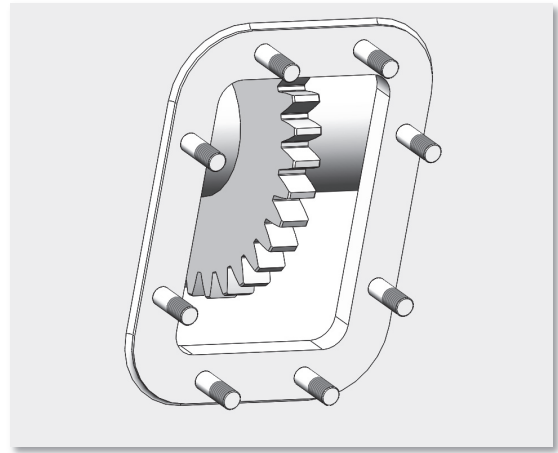

Fig. 3
7. Install the studs into the tapped holes of the transmission's PTO aperture (Fig. 3). **Make sure the studs do not interfere with the gears of the transmission.**